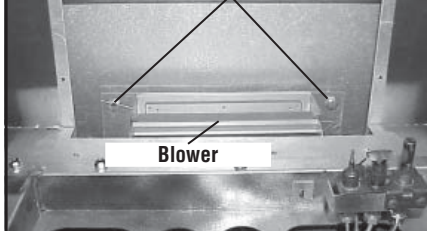

Figure 7
6. (Model EBVI25) Remove the two hex head bolts shown in Figure 7. (Model EBVI30) Remove the two screws shown in Figure 8, then lift out air duct channel.